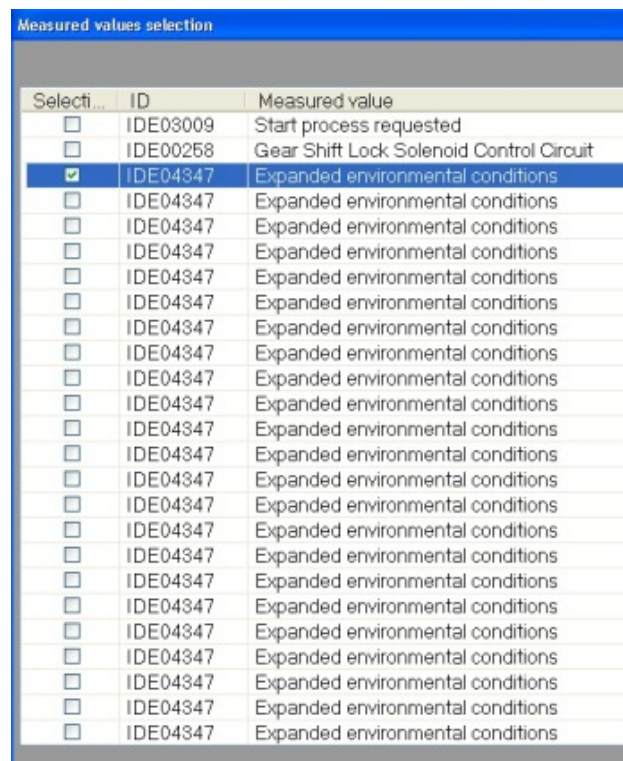

Figure 1. “Guided Functions” Selection
- Select “Guided Functions” from pop-up menu (Figure 1).